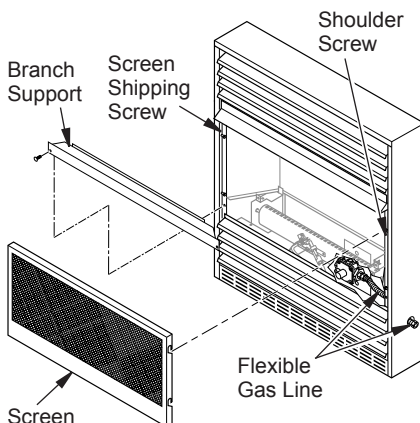

Figure 23 - Removing Log Base Assembly From Fireplace
2. Remove screws that attach branch support to fireplace (see Figure 23). Carefully lift up branch support and remove from fireplace (see Figure 23).
NOTICE: Most building codes do not permit concealed gas connections. A flexible gas line is provided to allow accessibility from the fireplace (see Figure 23). The flexible gas supply line connection to the equipment shutoff valve should be accessible.